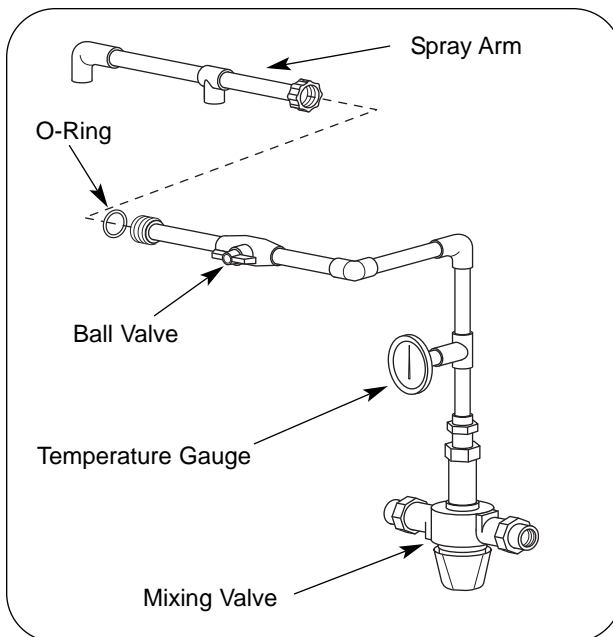

Figure 8. Water Manifold Assembly
5. With the spray heads on the spray arm pointing downward connect the spray arm to the water manifold, making sure O-Ring is seated into groove on manifold end. (See Figure 8.) *Hand tighten only.* Now core unit is set onto the shelf. Plumber should then work backward from the spray arm union to locate final plumbing path and clamp (secure) the mixing valve to the wall.
1. Connect the water manifold assembly directly to mixing valve and secure to wall using a 3/4" (19 mm) pipe support clamp or conduit clamp. (Clamp is not provided.) (See Figure 8.)